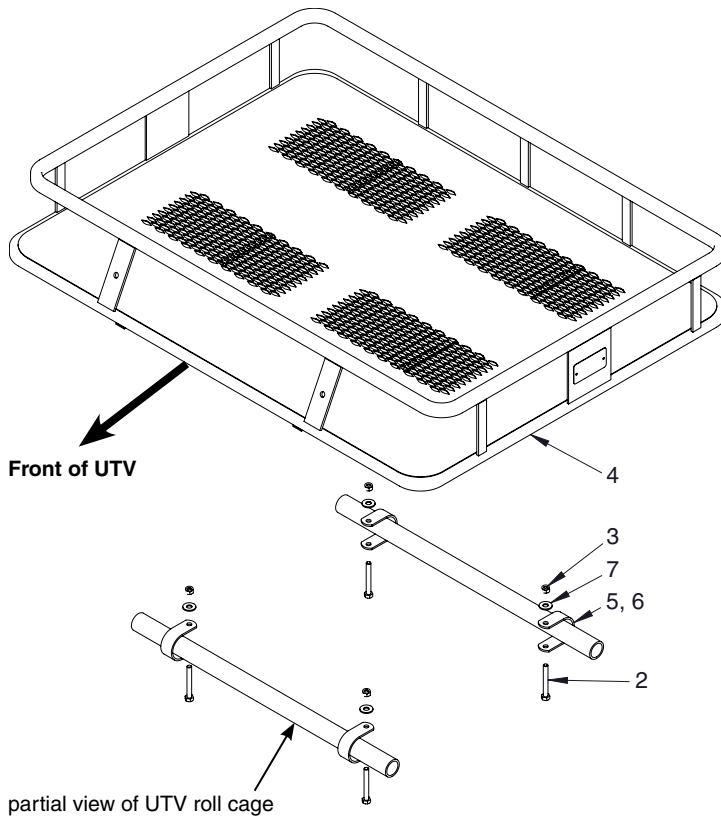

FIGURE 1
3. Place (4) of the provided clamps that best match your roll cage tube diameter onto the roll cage, in line with the mounting rails of UTV Roof Rack. The clamps may be oriented towards each other, or away from each other as **shown in FIGURE 1**.
4. Position the UTV Roof Rack from front to back at desired location while keeping centered from side to side. Attach roof rack to the clamps by inserting (4) provided 5/16-18 x 2-1/2" bolts through slots located on roof rack frame. Attach washer and nyloc nut to bolt that is protruded through opposite side of each clamp. **Tighten securely** making sure the inside of each clamp is contacting the UTV roll cage. This will help prevent UTV Roof Rack from shifting during use. **DO NOT OVER TIGHTEN**.